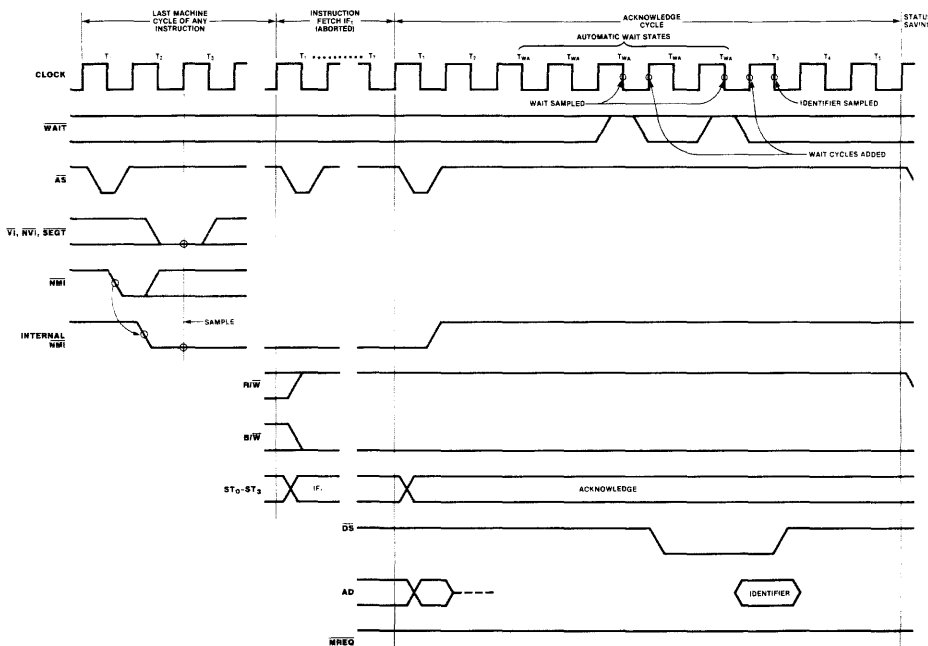

Figure 9-6. Interrupt and Segment Trap Request and Acknowledge Transition.
These transactions are eight clock cycles long at a minimum (as shown in Figure 9.6), having five automatic WAIT cycles. The WAIT cycles are used to give the interrupt priority daisy chain (or other priority resolution device) time to settle before the identifier word is read. (Consult the *Z-Bus Summary* for more information on the operation of the priority daisy-chain.)
As shown in Figure 9.6, there are two places where WAIT is sampled and thus a WAIT cycle may be inserted. The first serves to delay the falling edge of DS to allow the daisy chain a longer time to settle, and the second serves to delay the point at which data is read.
9.6.1 Interrupt/Trap Request. The Z8000 CPU supports three interrupts and one external trap (segment trap) as shown in Figure 9.6. The Interrupt Request line ($\overline{\text{INT}}$) of a device that is capable of generating an interrupt may be tied to any of the three Z8000 interrupt pins ($\overline{\text{NMI}}$, $\overline{\text{NVI}}$, $\overline{\text{VI}}$). Several devices can be connected to one pin, the devices arranged in a priority daisy chain (see the *Z-Bus Summary*). The segment trap pin ($\overline{\text{SEGT}}$) is activated by the memory management hardware. The CPU uses the same protocol for handling requests on any of these pins. Here is the sequence of events that is followed: